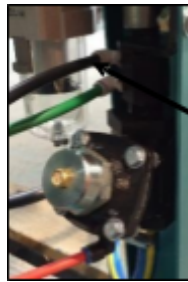

Figure 19
- 3.7.3 Black tubing – (For units with drum dust collector A201122-3) – Connect one end to the second air manifold port (see figure 19) and the other end to the mini ball valve located on the top of the dust collector lid (see figure 20)